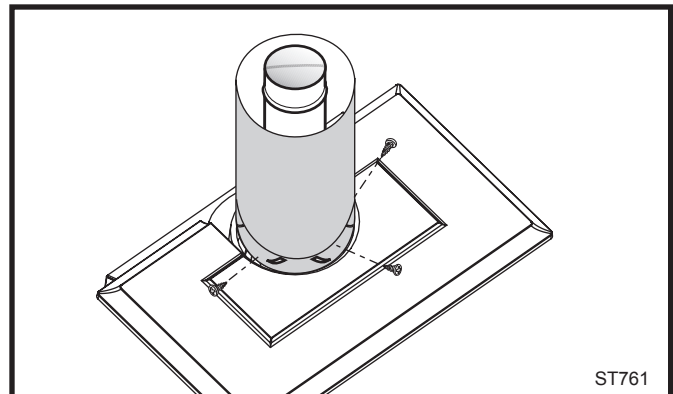

Fig. 19 Fasten outer pipe with #12 x 1/2" sheet metal screw.
- 5. Install the Outer Adapter Pipe.** Apply a 1/4" bead of cement around the inside wall of the pipe, about 1" from the end. Insert the pipe over the stove flue collar, keeping the vertical seam oriented to the back of the stove. Also, be sure to align holes on the pipe with the holes on the flue collar of the firebox. Fasten the pipe to the holes in the flue collar with the #12 x 1/2" sheet metal screws provided. (Fig. 19)